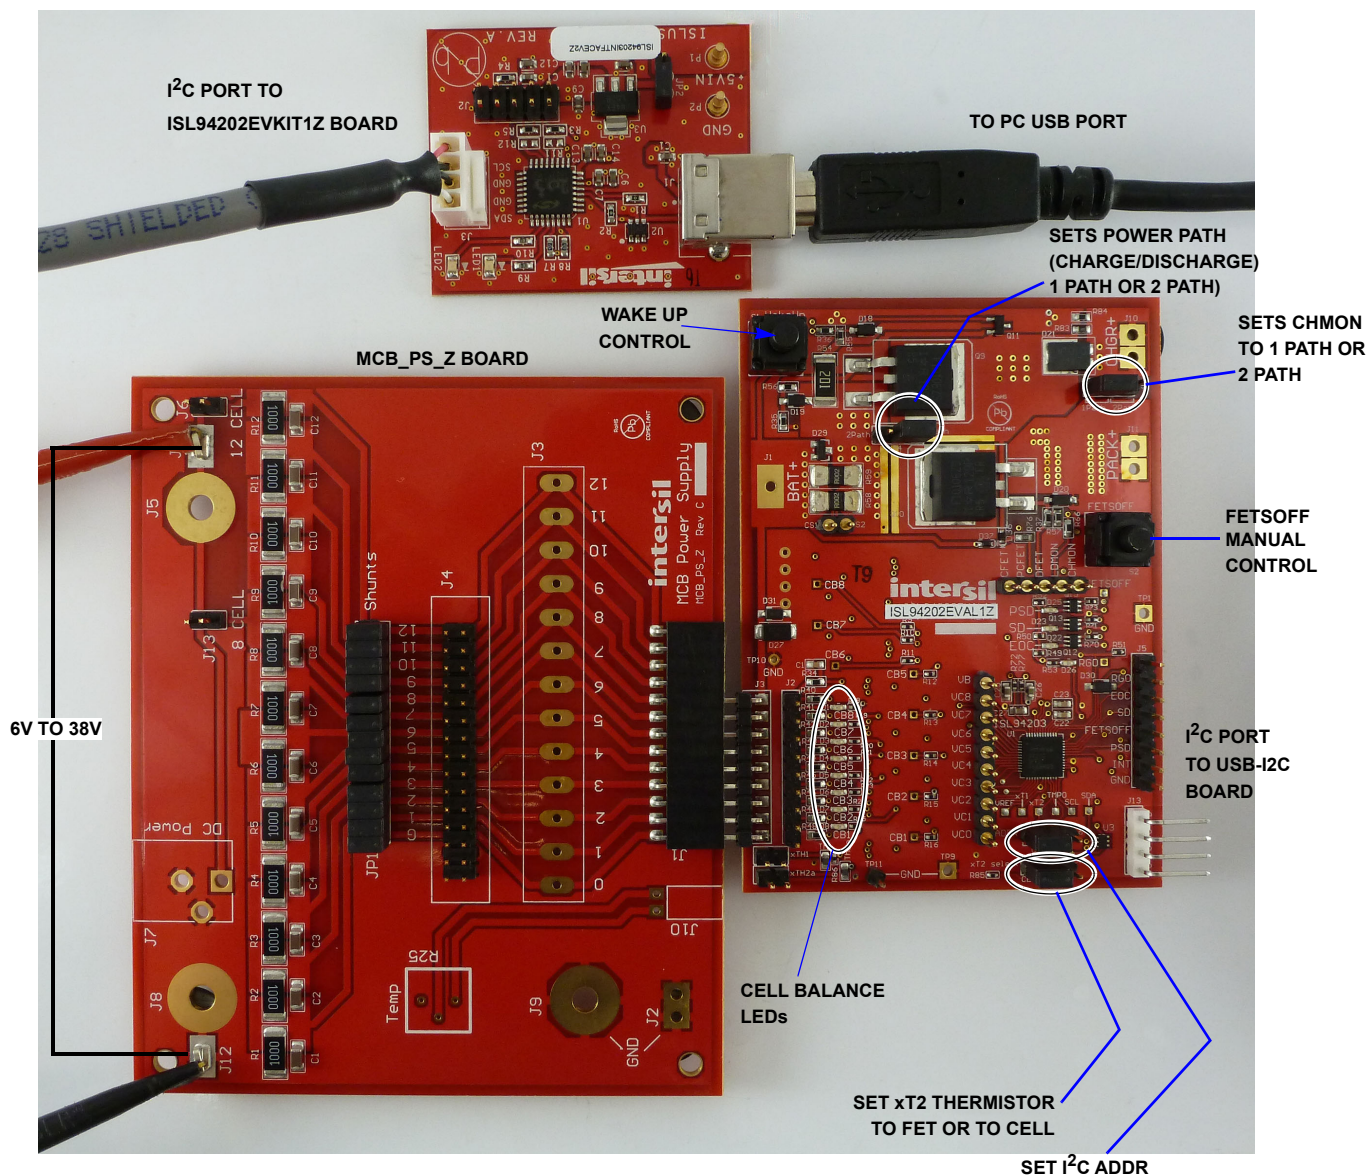

FIGURE 4. ISL94202EVKIT1Z BOARD SETUP
- Step 5:** Connect the ISL94202 board directly to the MCB\_PS\_Z board at connector J1. Make sure the board is connected on the ground side of J1 (see Figure 4).